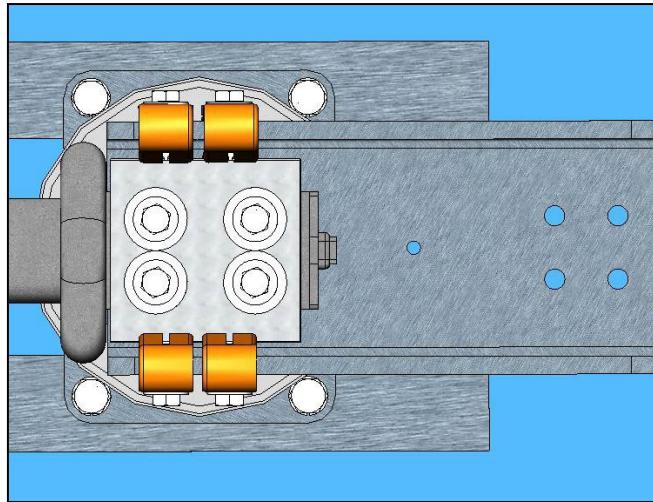
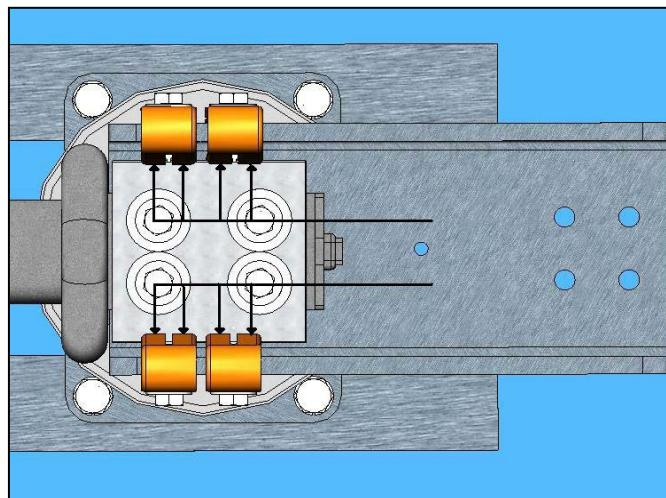

Figure 4: Contact Blade Centered Among Contact Fingers
Figure 5: Evenly Distributed Contact at All Points, on Both Sides
- 1.6.4. Mount the jaw contact assembly to the insulator and, for the moment, leave the bolts loose. Close the switch blade into the contacts, checking for alignment as shown in **Figure 4** and **Figure 5**. Usually bolt hole tolerances will be sufficient to align the contacts properly. However, the jackscrews that support the jaw insulator stack can also be used to tilt the insulator as required
2.1.1. The jaw contact leaves (fingers) must be centered on the silver of the blade tip as shown in **Figure 4**. If necessary, use the jack screws that support the jaw insulator to tilt the insulator fore or aft to align these parts.
2.1.2. All contact leaves (fingers) must be in contact with the silver of the blade tip as shown in **Figure 5**. If necessary, shift the jaw against the bolt hole tolerances as required to achieve full contact distribution along the length of the blade tip.